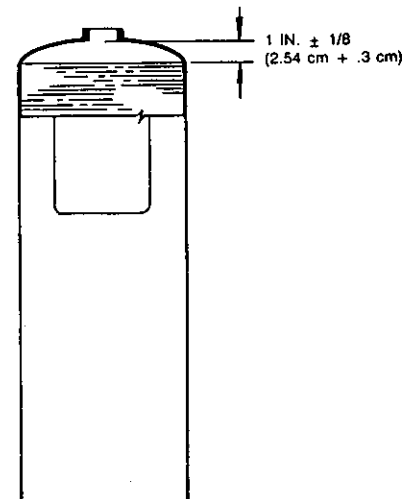

FIGURE 3
9. Make certain that each tank is filled to a level of 1 in. $\pm$ 1/8 (2.54 cm $\pm$.3) from the bottom of the fill opening. See Figure 3.